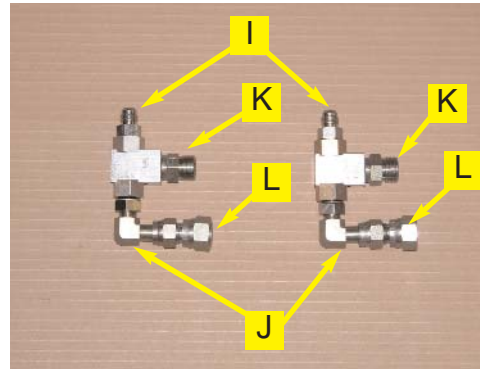

Figure 5a. Assembled load shuttles.
- a. Preassemble the load shuttles (**H**) with adapter fittings (**I**), (**J**), (**K**), and (**L**) as shown. (Figure 5a.)